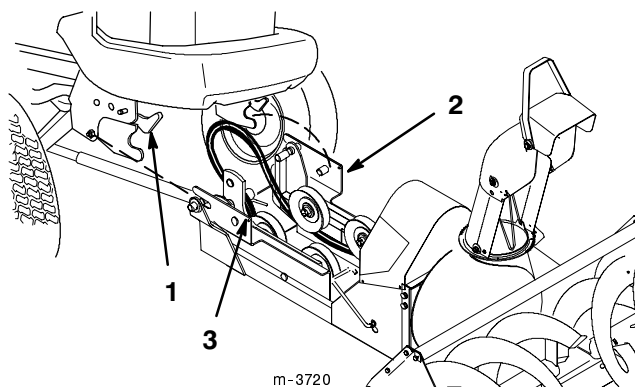

Figure 29
14. Remove the clevis pins from the pulley box locking holes (Fig. 29). Open the latches of the front Attach-A-Matic™, remove the pulley box, and slide it into snowthrower frame.